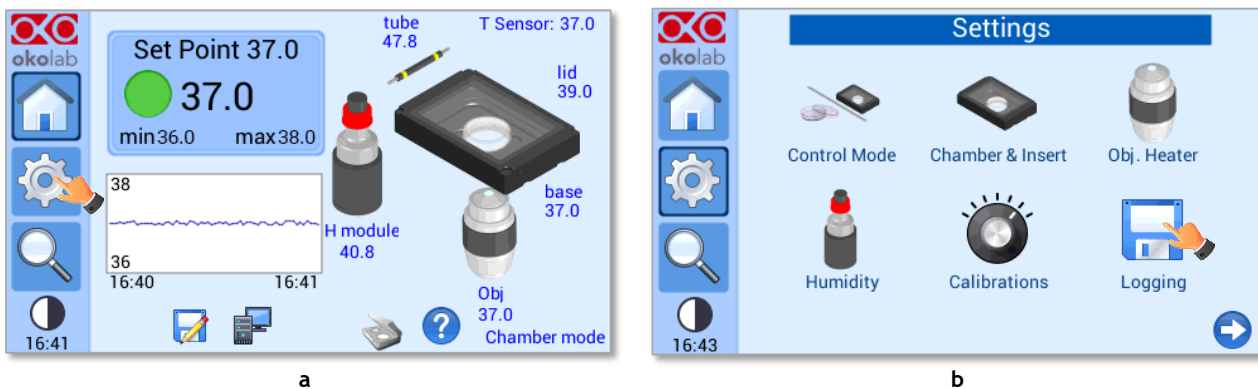

Figure 69. How to enter the Logging menu (a – b).
1. Press on Settings icon  (see Figure 69 a) and press on Logging icon  (see Figure 69 b).